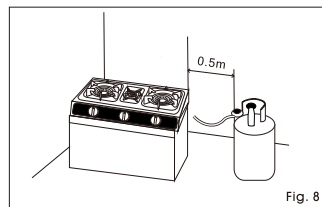

Fig. 8
- The gas cylinder should stand away at least 0.5m from the cooker. (Fig.8)